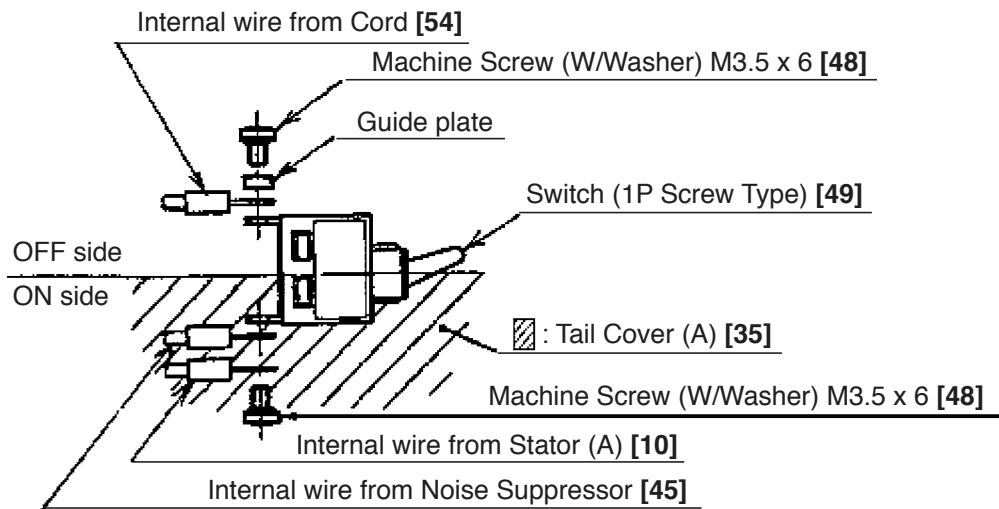
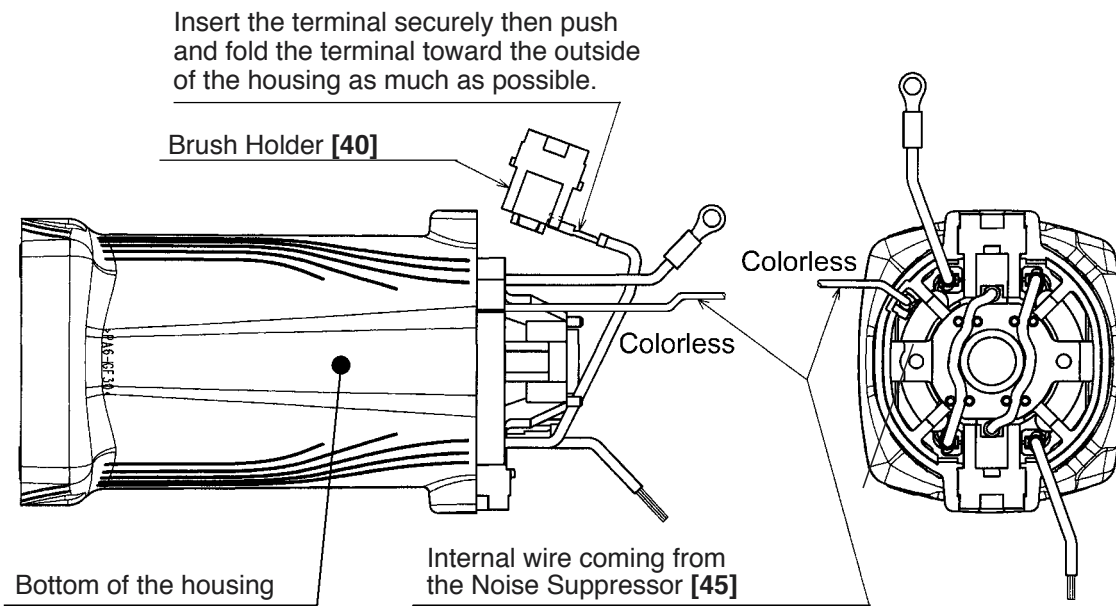

Fig. 6
Fig. 7
- (7) Connect the internal wires of Stator (A) [10] correctly as shown in Fig. 6 and Fig. 7.
- (8) Connect each internal wire correctly as shown in Fig. 7 being careful not to put them between the parts.